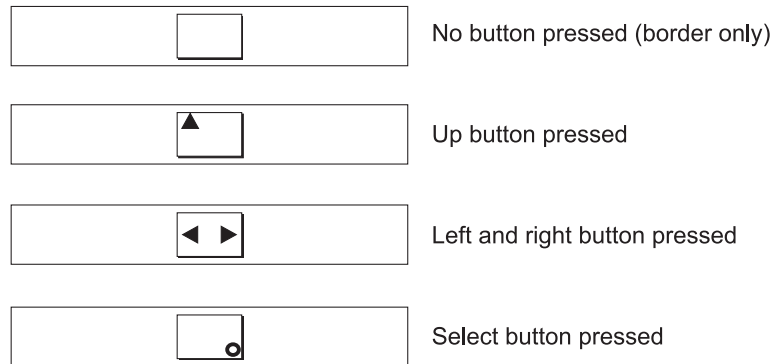

Figure 34. Front-panel display when push buttons are pressed
3. Press the up, down, left, and right buttons to verify that they are working. Figure 34 shows four examples of what the front panel should display when you press the buttons. After you finish testing the buttons, press and hold the select button for five seconds to exit the test.